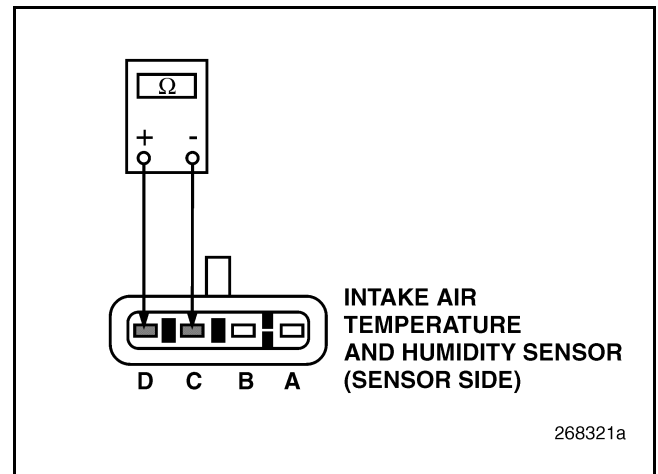

Figure 296
3. Measure the resistance between pins C and D of the IATH Sensor with the ambient air temperature between 32° and 104°F (0° and 40°C) (see Figure 296).